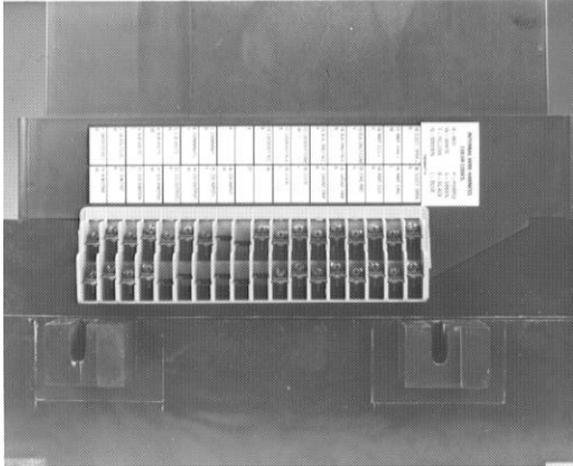

Figure 16: Terminal block mounted on the right side of the new HPC Switch.
Figure 16 illustrates the terminal block installed on the right side of the switch. Table 5 lists the device connections to the terminal block. Each terminal point will accept the following connections:
- ① Do not apply voltage; see wiring diagram (Figure 16). Place a jump wire from terminal 17 to terminal 35 for automatic charge
- ② If RELT is provided on the Trip Unit, GF alarm cannot be the programmed output. GF alarm can however be communicated on Modbus if the trip unit has communication capability